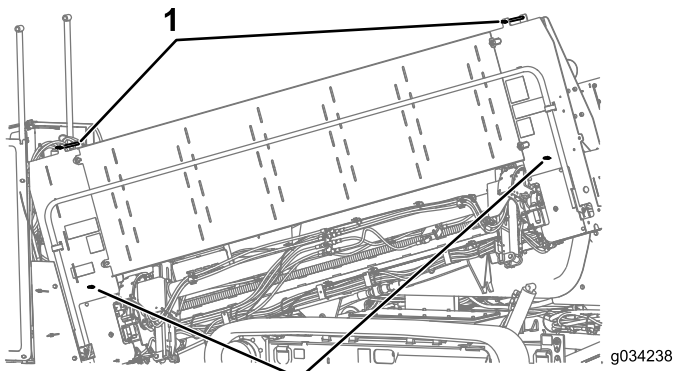

Figure 70
2. Ensure that the upper and rear pipe-holder pins are installed Figure 70.